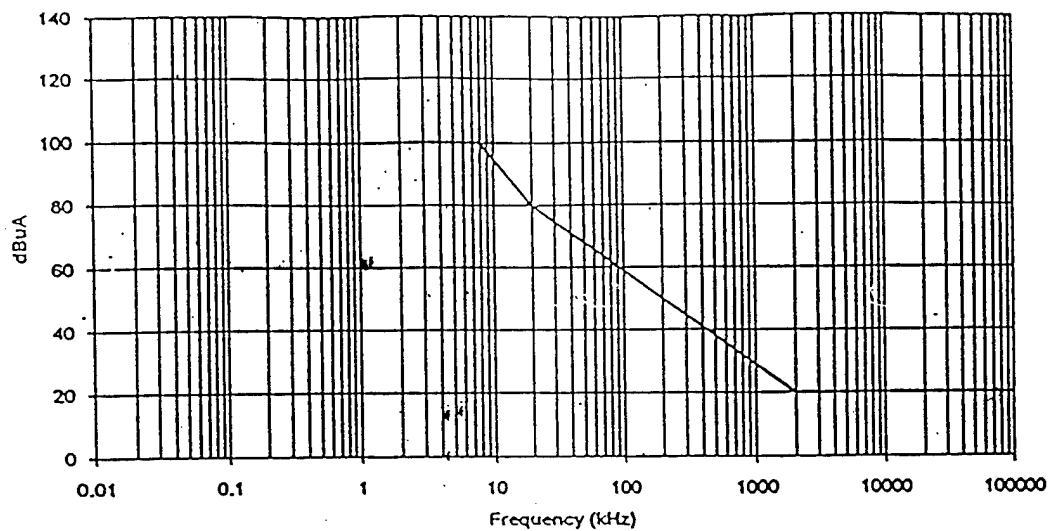

Figure 9 - Narrowband Conducted Emissions Limit
**3.2.9 Electromagnetic Compatibility.** The daughterboard shall pass the CE01 and CE03 tests with connected to a Line Impedance and Source Network that simulates the Experiment Panel's power outputs. The test levels shall follow CE01 and CE03, except the initial value is based on -40dB of the maximum normal operating load current. The MPTB experiment must meet the EMI requirements set in Figures 9 and 10. The MPTB designers will work with the individual experimenter designers to insure compatibility at the daughterboard level.